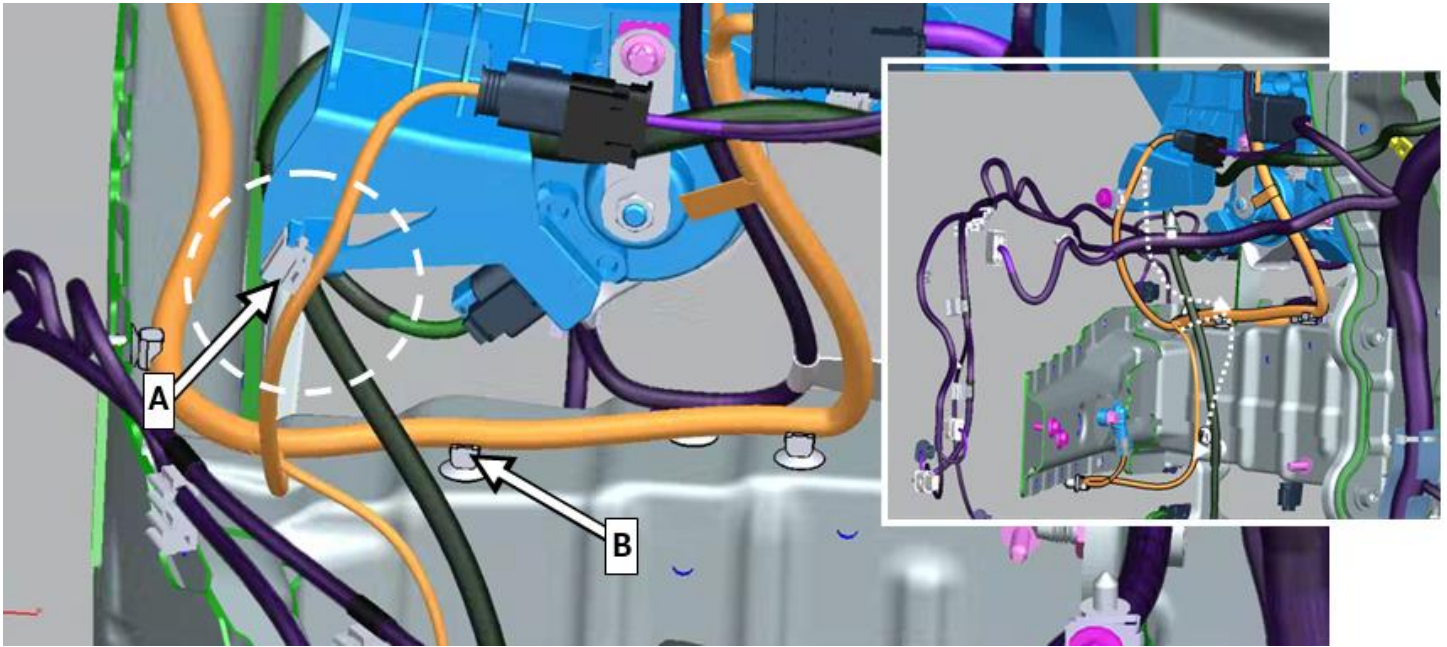

Figure 2
2. Remove bracket **(A, figure 2)** including cable tie from wiring harness and remove cable tie on bracket **(B, figure 2)** on upper left longitudinal member.
i Bracket **(A, figure 2)** will no longer be installed!